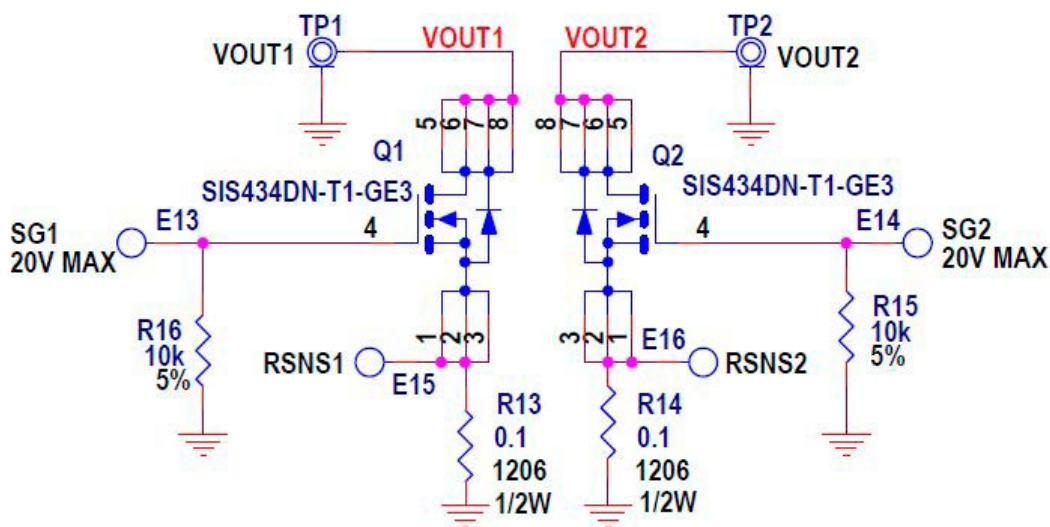

Figure 3. Optional Transient Response Circuit
16. Adjust a signal generator with a 10ms period, 10% duty cycle and an amplitude from 1V to 2V to start. Measure the RSNSx voltage to observe the current, $V_{RSNSx}/100m\Omega$. Adjust the amplitude of the pulse to provide the desired transient. Adjust the rising and falling edge of the pulse to provide the desired ramp rate. Refer to the following equations, the LTC3315A DC3123A transient plots and Figure 3.